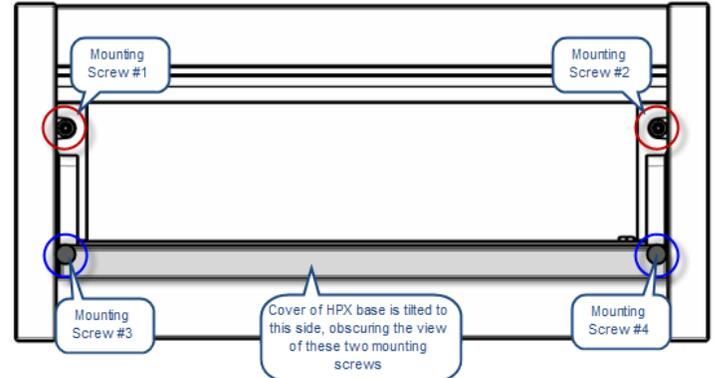
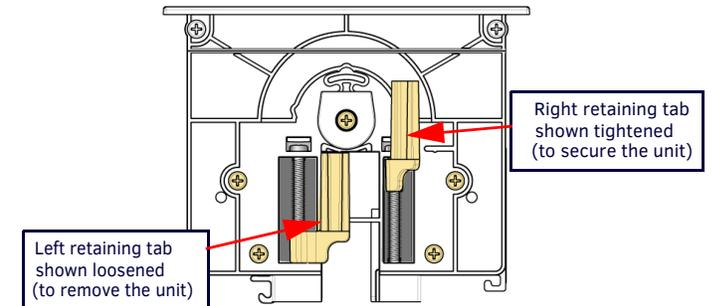

FIG. 8 HPX BASE ASSEMBLY (SHOWN MOUNTED) - MOUNTING SCREWS LOCATIONS
FIG. 9 HPX BASE ASSEMBLY (SHOWN MOUNTED) - MOUNTING SCREWS LOCATIONS
- Tighten the four mounting screws (FIG. 8) located inside and at each end of the HPX base assembly, to rotate the retaining tabs (FIG. 9) into locking position under the mounting surface.
- Loosen four mounting screws inside and at each end of the HPX base assembly (FIG. 8), in order to rotate the retaining tabs from under the mounting surface.
FIG. 9 provides a cutaway view of the End Cap, showing the retaining tabs highlighted in both the loose position and the tightened (secure) position.